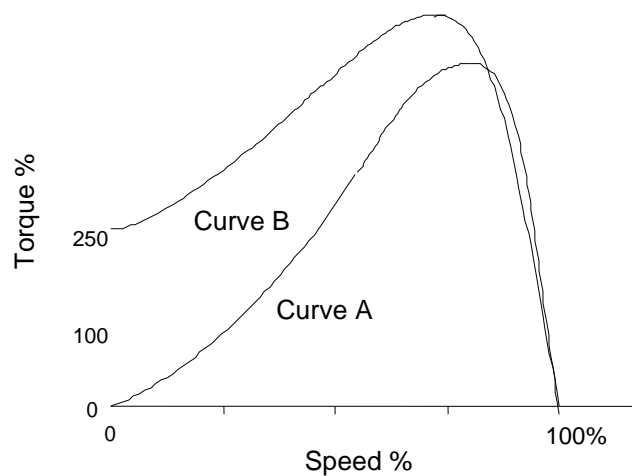

Figure 1
1. Figure 1 represents some torque speed curves for a single phase split phase induction motor.